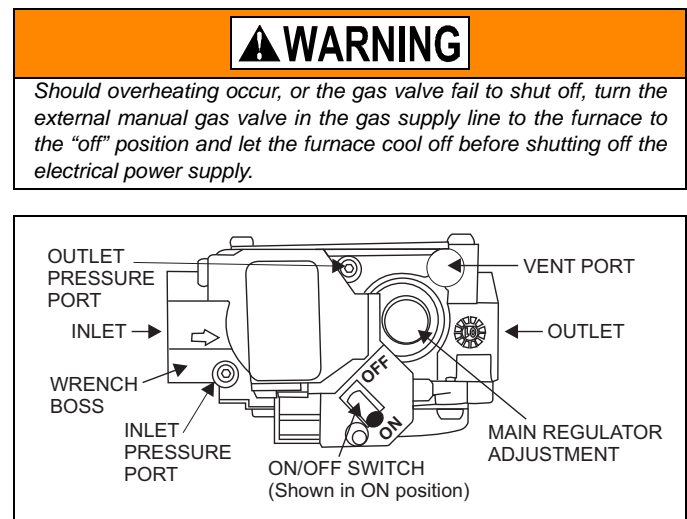

FIGURE 3: Single Stage Gas Valve
5. Move gas control switch to the "OFF" position. Do not force. See Figure 3.
6. Wait five (5) minutes to clear out any gas. If you then smell gas, STOP! Follow "B" in the safety information above. If you don't smell gas, go to next step.
7. Move gas control switch to the "ON" position. Do not force. See Figure 3.
11. After three (3) trials for ignition, if the appliance will not operate follow the instructions, "TO TURN OFF THE APPLIANCE" and call your service technician or gas supplier.
4. Move gas control switch to the "OFF" position. See Figure 3.
2. Check that the manual gas shut-off valve in the gas piping supply is turned to the ON position. Refer to Figure 3.
3. Check that the ON/OFF switch on the gas valve is turned to the ON position. Refer to Figure 3.